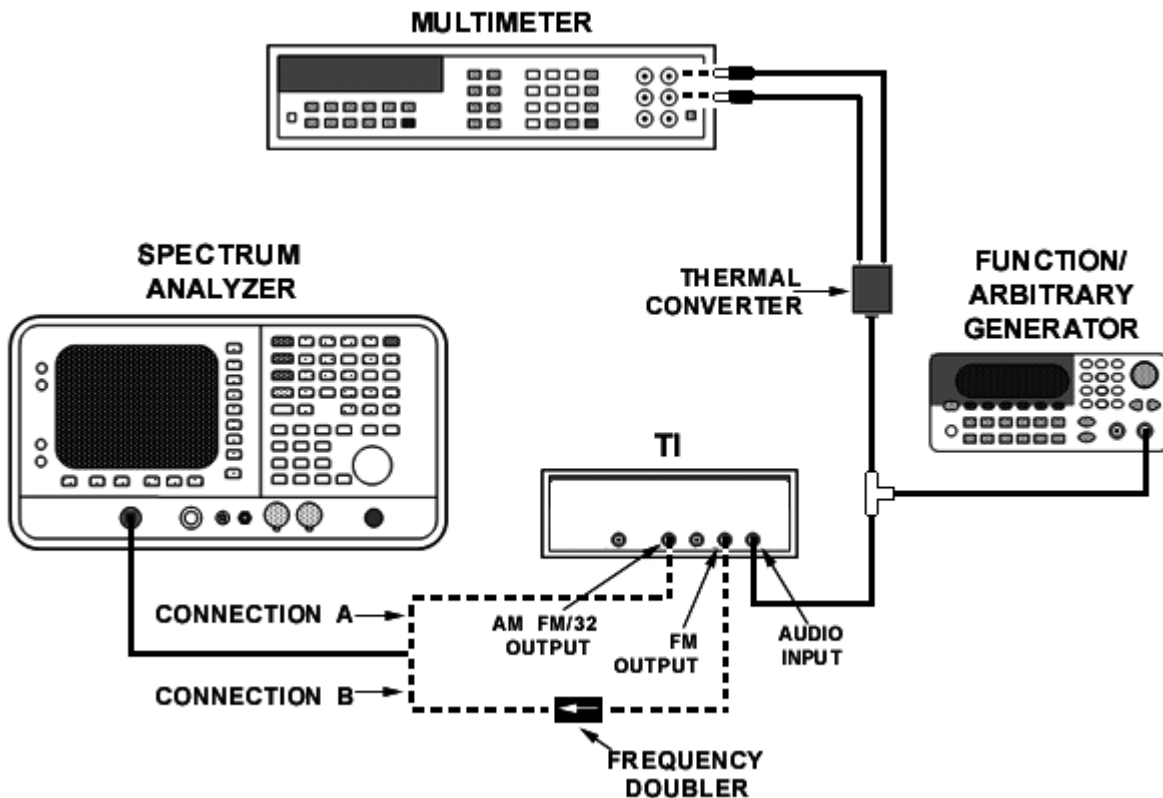

Figure 3. FM flatness - equipment setup.
(1) Connect equipment as shown in figure 3, CONNECTION A.
- (7) Note multimeter dc V indication.
- (8) Set function/arbitrary generator frequency to 640 kHz.
- (9) Connect equipment as shown in figure 3, CONNECTION B, using frequency doubler.